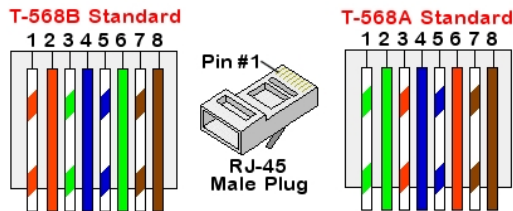

Figure 20: Standard cable wiring
- c. Insert the eight wires into an RJ45 connector, as described in *Figure 20*.
7. For the switch/router side, use a pre-terminated cable or use a crimper to prepare an RJ45 communication connector: Insert the eight wires into the RJ45 connector in the same order as above (*Figure 20*).